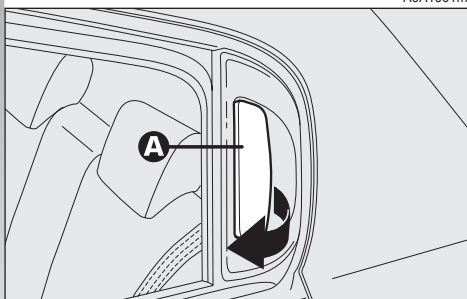

fig. 10
- To open the door, deactivate the centralized locking and pull the handle (A-fig. 10).